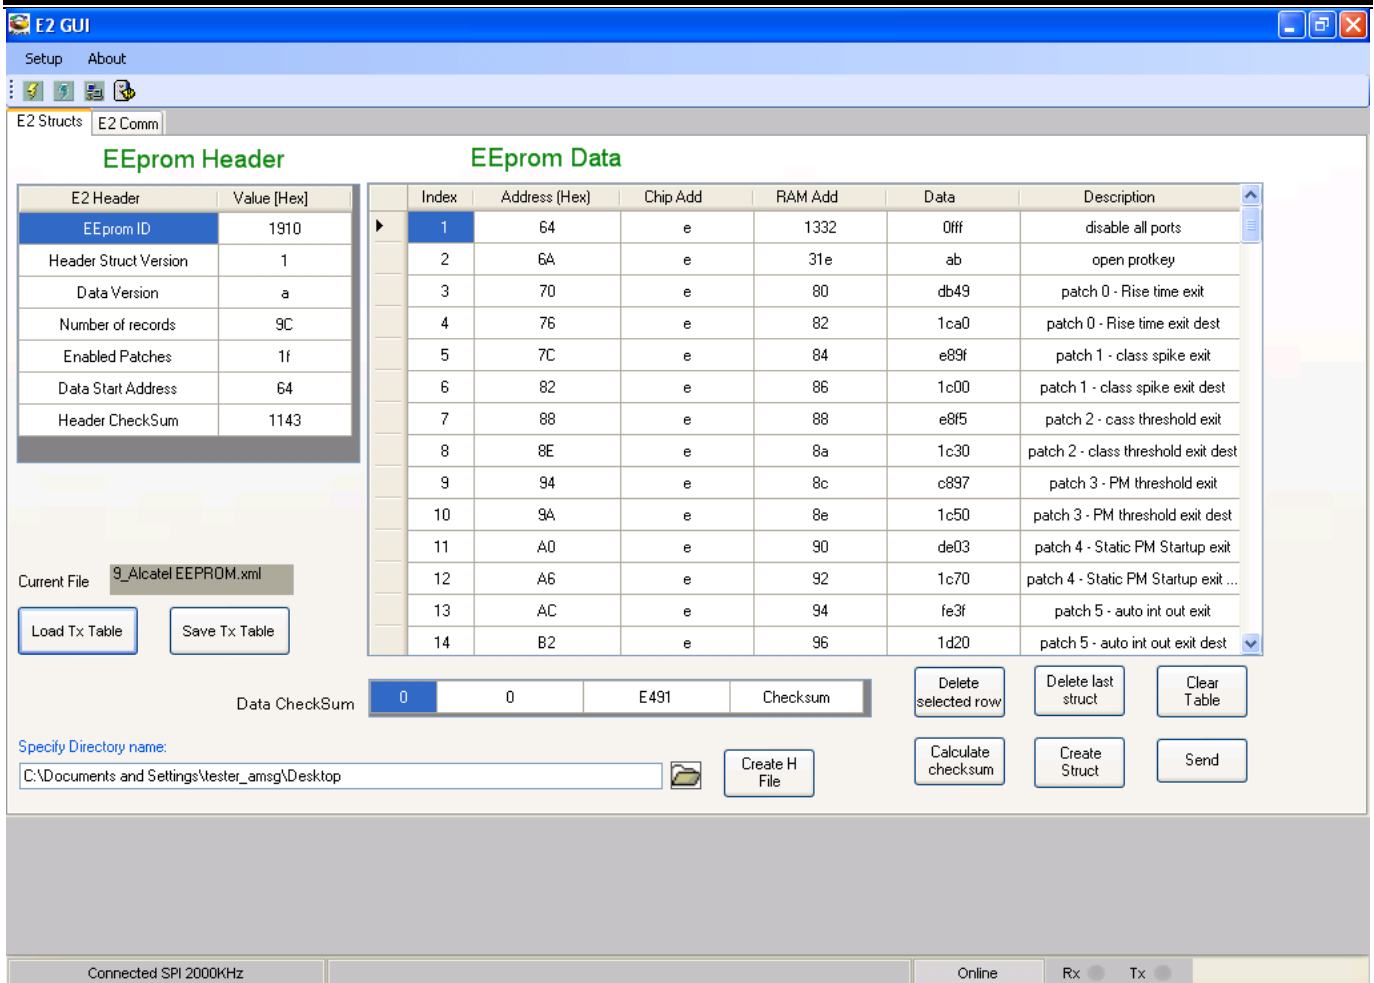

Figure 18: E2 GUI
- c. Click GUI SEND button while pushing Reset Push button (SW1) on the DB (see Figure 18)